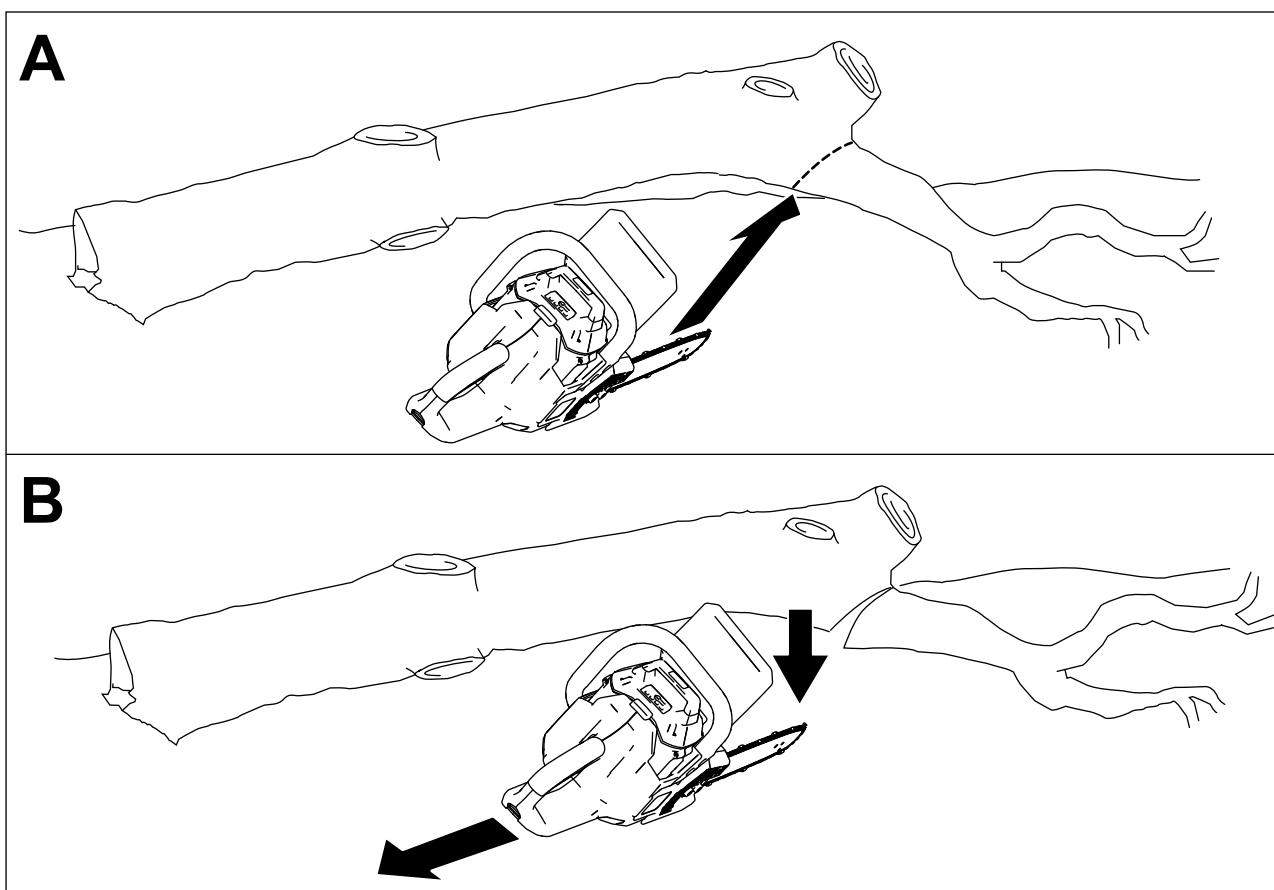

Figure 18
3. Cut the larger limbs that support the weight of the tree from the bottom upward so that the limbs do not pinch the saw blade (Figure 18).